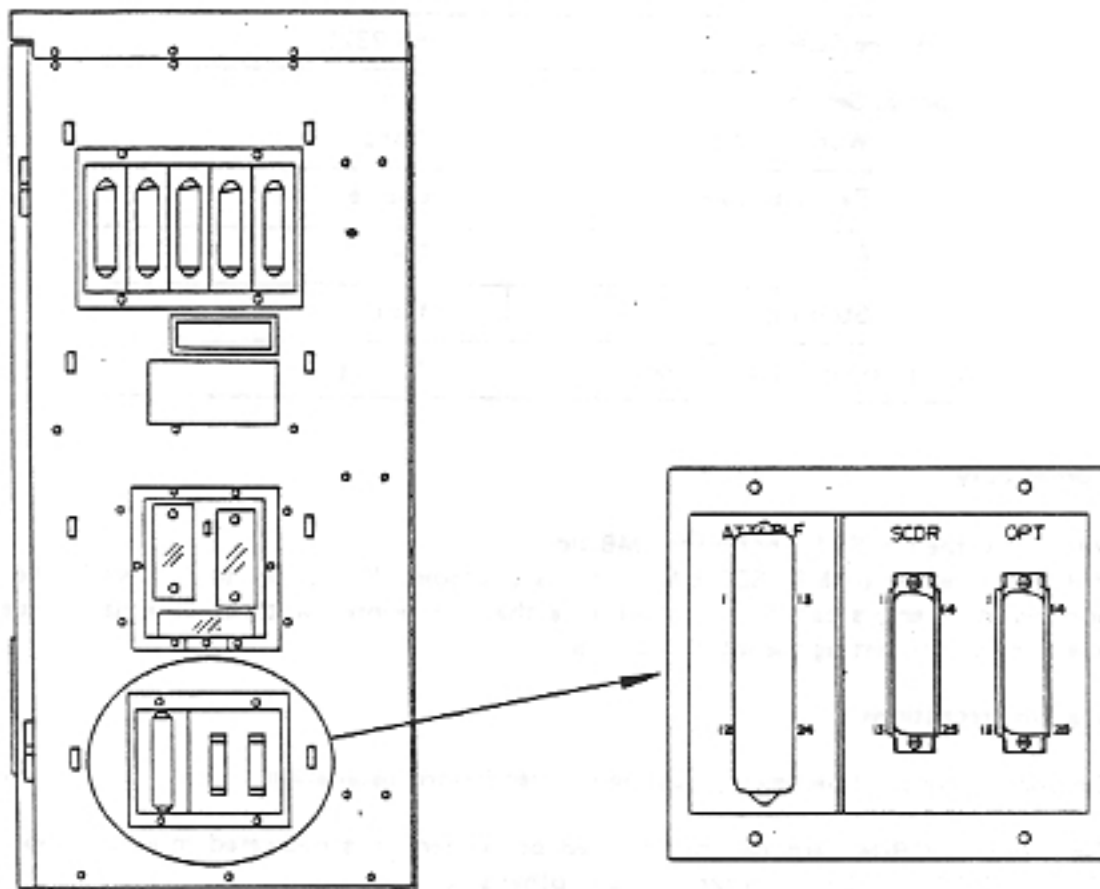

Figure 3.6.2.5.4(3)(c)
(3) Installation precautions
- (b) Only one SCDR-M card can be installed per system in a dedicated mounting position. (see Figure 3.6.2.2(1)). Do not insert it in any other slot.
- (c) Connect the external terminal to the EIA-type 25-position D-sub connector of the right side panel of the EX-824/1648 common module. (see Figure 3.6.2.5.4 (3)(c).)